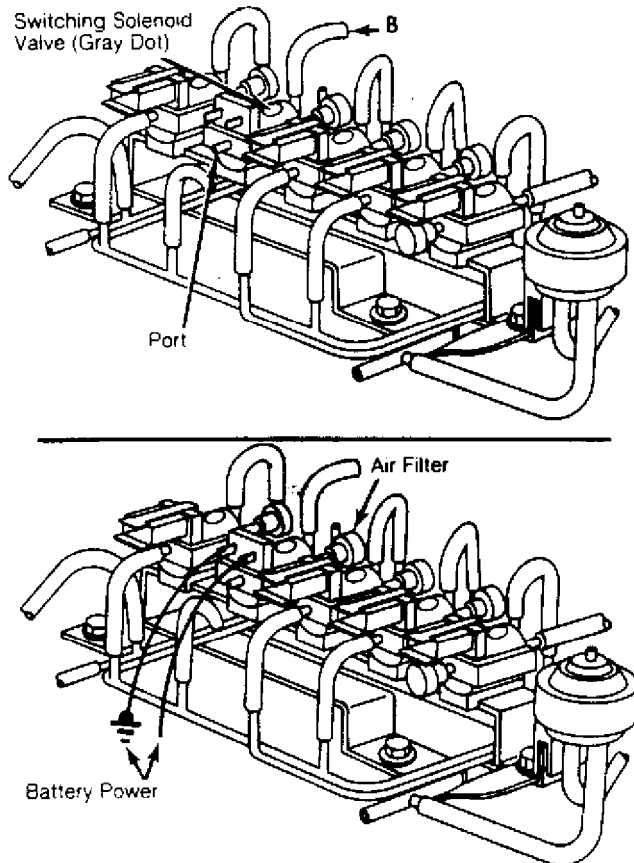

Fig. 5: Testing Switching Solenoid Valve
1) Disconnect vacuum sensing tubes from switching solenoid valve and vacuum pipe. Blow through switching valve from vacuum sensing tube "B" in Fig. 5. Air should pass through valve and escape from front port.